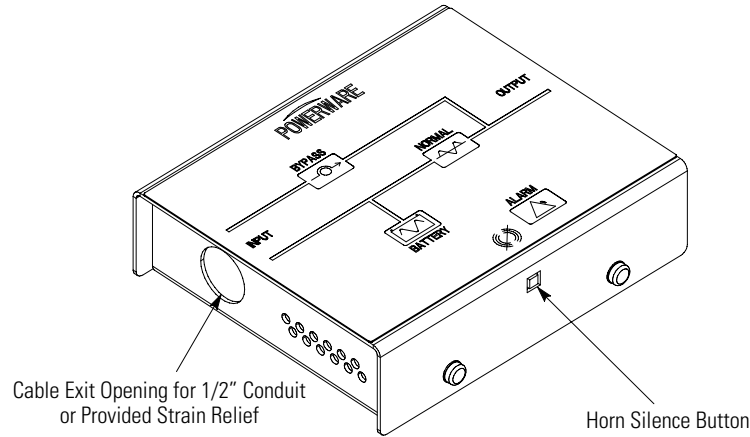
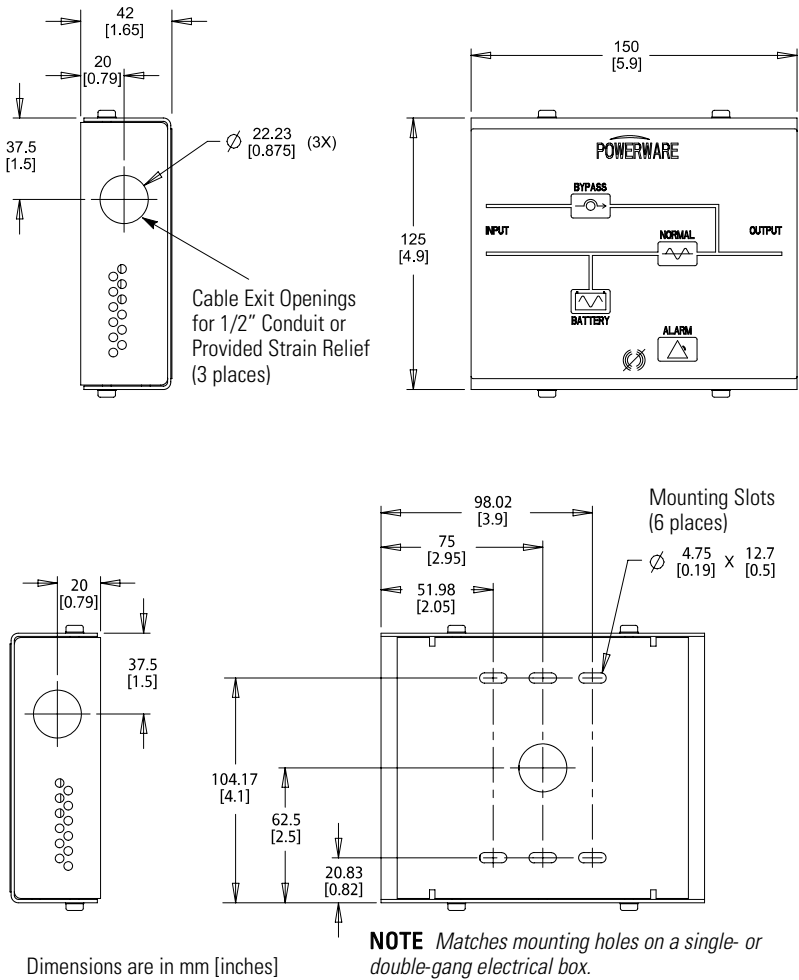

Figure 40. Remote Monitor Panel
Figure 41. RMP Dimensions
The optional RMP can be installed to monitor the operation of the UPS from virtually any location within your facility, up to 152.4m (500 ft) from the UPS. You can surface-mount an RMP on a desktop or on a wall, wherever you have a serial interface line. Figure 40 shows an RMP. Figure 41 shows the enclosure dimensions and cable exit openings.
2. Install 1/2" conduit from the RMP to the IRC through the cable exit openings (see Figure 41). Proceed to Step 4.